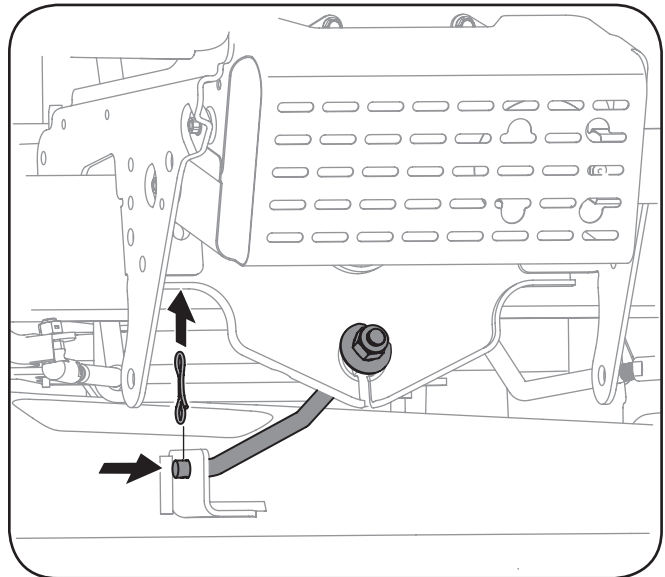

Figure 7-3
8. **On 42" decks:** Remove the bow-tie pin securing the deck stabilizer rod to the deck. Slide the deck lift rod from the mounting weldment on the deck as seen in Figure 7-3.
- On 46" Decks:** Remove the bow-tie cotter pin and flat washer securing the deck stabilizer rod to the deck. Slide the deck lift rod from the mounting weldment on the deck as seen in Figure 7-3.